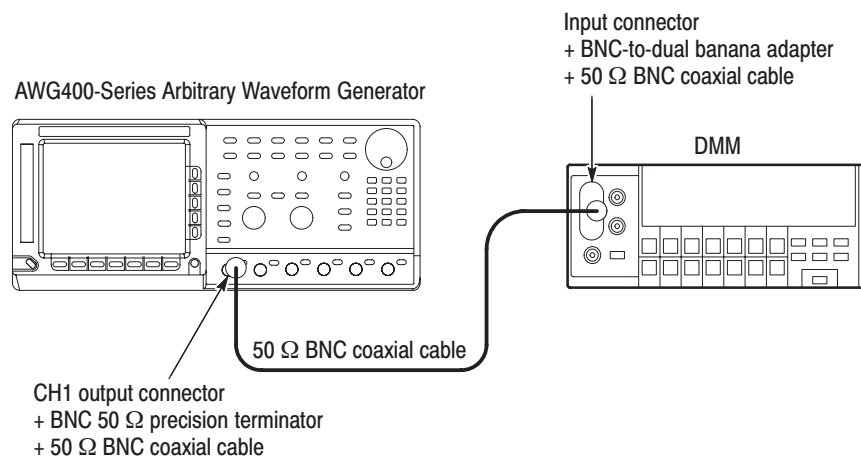

Figure 4–17: Direct DA output amplitude accuracy initial test hookup
- a. Use a 50 Ω BNC coaxial cable, a 50 Ω precision terminator, and a BNC-to-dual banana adapter to connect the AWG400-Series **CH1** output to the DMM input connector (see Figure 4–17).